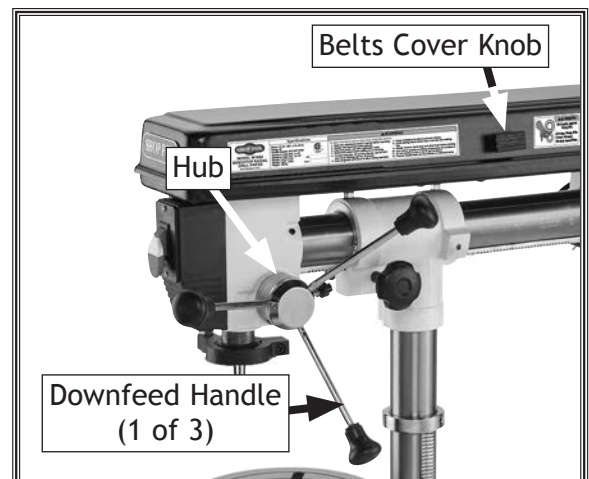

Figure 20. Downfeed handles thread into hub and belts cover installed.
18. Thread the downfeed handles into the hub, as shown in Figure 20.
19. Attach the belts cover knob to the belts cover with (1) #8 x $\frac{3}{4}$ " tap screw, (see Figure 20).